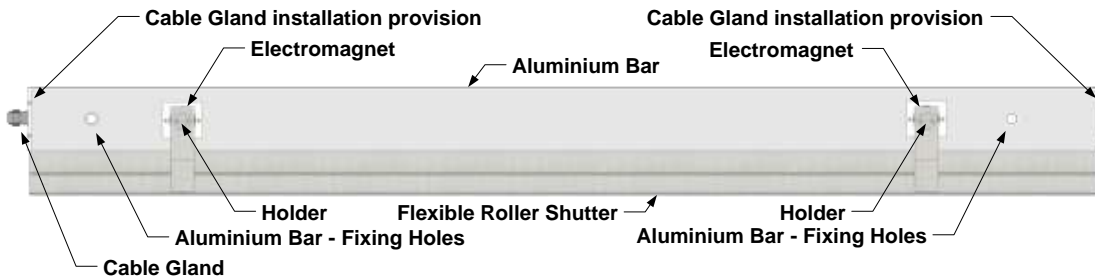

figure 2. "LPS" components.
Step 2: Identify the location of each component of the "LPS", for correct installation as shown in Figure 2.